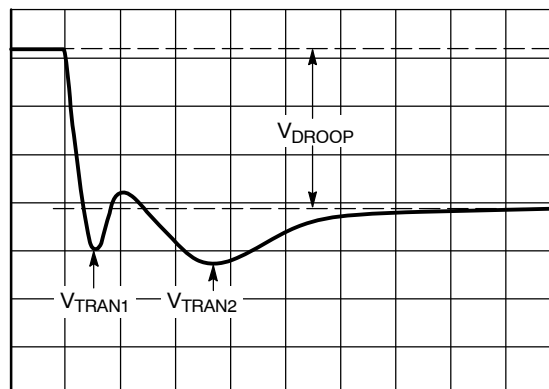

Figure 38. Transient Setting Waveform, Load Step
1. With the dynamic load set at its maximum step size, expand the scope time scale to 2 $\mu\text{s}/\text{div}$ to 5 $\mu\text{s}/\text{div}$. This results in a waveform that may have two overshoots and one minor undershoot before achieving the final desired value after V_{DROOP} (see Figure 38).